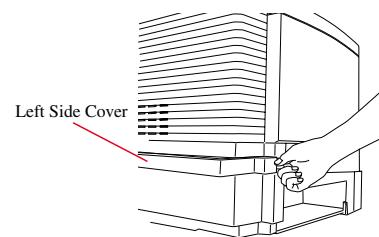
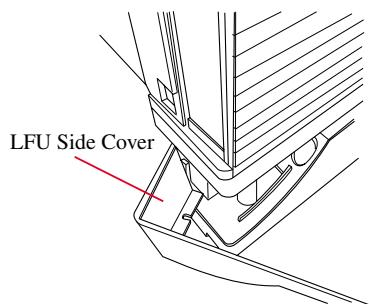

Fig. 3-37
Fig. 3-38
3. Remove left and right LFU side covers (see Fig. 3-37 and Fig. 3-38).